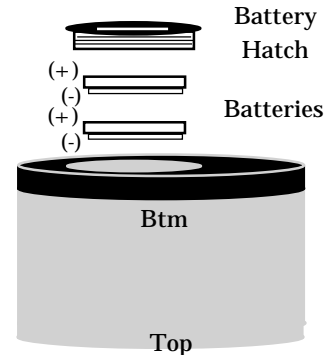

Fig. 51 - Installing Batteries
- Install two new 3 volt lithium batteries (Duracell® DL2032, Radio Shack® 23-162, Maxell® CR2032, Panasonic® CR2032, or equivalent) into the battery compartment with the positive (+) side facing up (out of the battery compartment), with one directly on top of the other (Fig. 51). Avoid touching either the battery contacts or the flat surfaces of the batteries, as skin oil